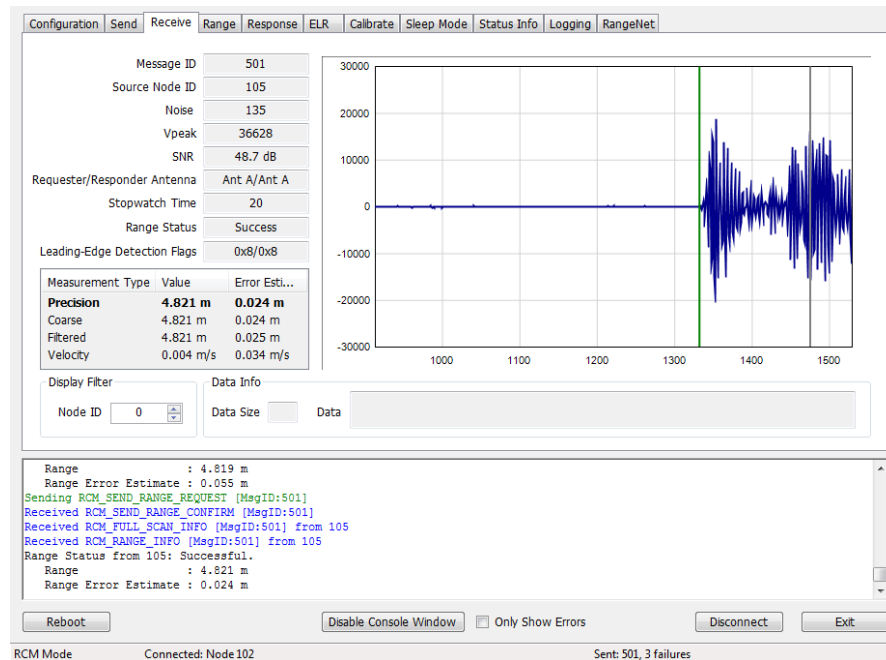

Fig. 2-3: Typical waveform as displayed by the GUI
- Capture, display to the screen, and log waveforms to disk. **Figure 2-3** illustrates a representative waveform as displayed by the GUI.